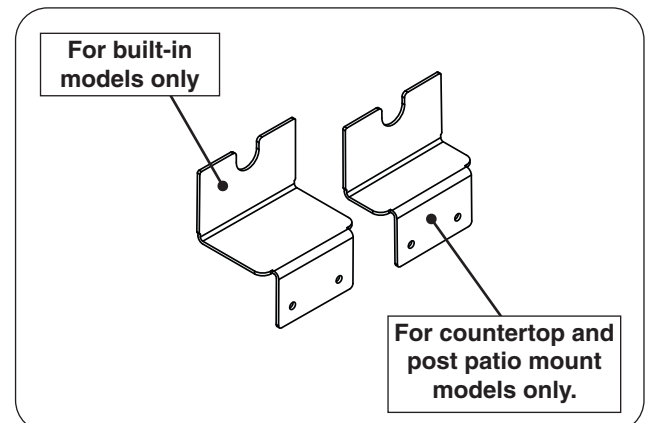

Fig. 15-2 Select rotisserie bracket (if equipped)
2. Locate the rotisserie bracket for your installation. See Fig. 15-2 and information below for the correct bracket.